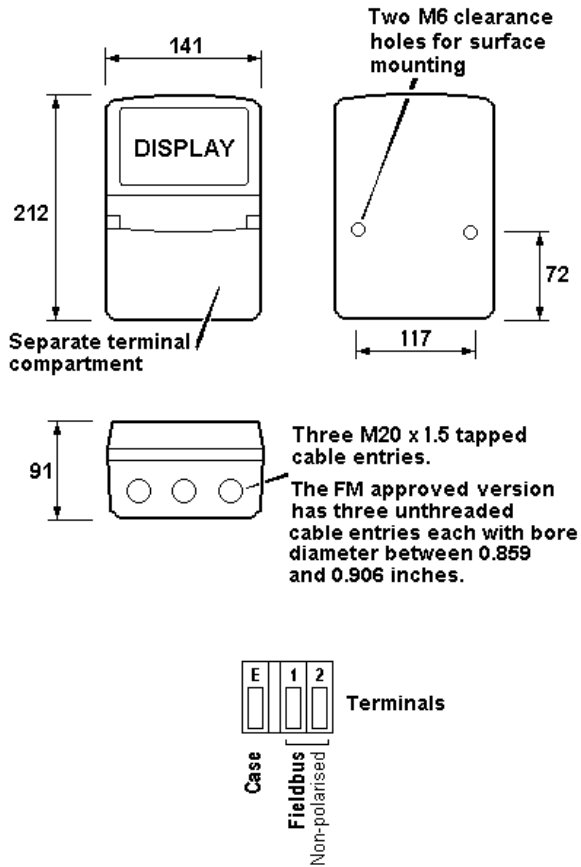

Fig 3 Dimensions and terminal connections
- Connect the field wiring to the terminals as shown in Fig 3.
Connection	3; Fig 3